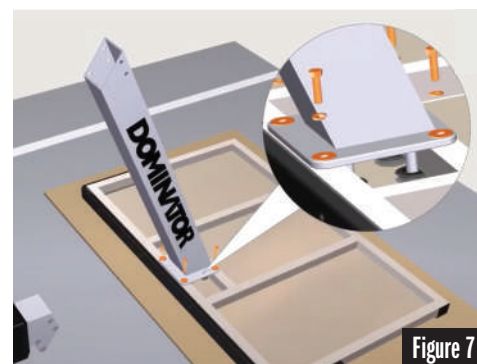

Figure 7
- Align the Extension Arm with the Backboard and secure the hardware in the same order. See Figure 7.